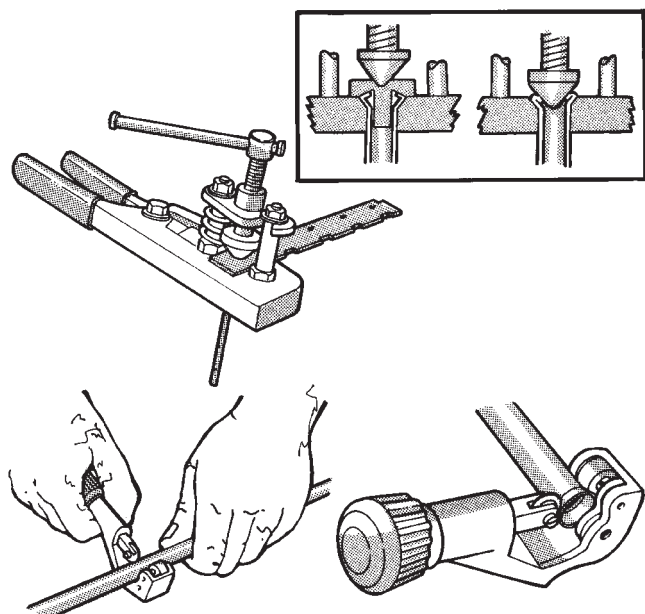

Fig. 18 Inverted Flare Tools
(3) Install replacement tube nut on section of tube to be repaired.
(4) Insert tube in flaring tool. Center tube in area between vertical posts.
(5) Place gauge form over the end of the tube.
(6) Push tubing through flaring tool jaws until tube contacts recessed notch in gauge that matches tube diameter.
(7) Squeeze flaring tool jaws to lock tubing in place.
(8) Insert plug on gauge in the tube. Then swing compression disc over gauge and center tapered flaring screw in recess of compression disc (Fig. 18).
(9) Tighten tool handle until plug gauge is seated on jaws of flaring tool. This will start the inverted flare.
(10) Remove the plug gauge and complete the inverted flare.
(11) Remove the flaring tools and verify that the inverted flare is correct.